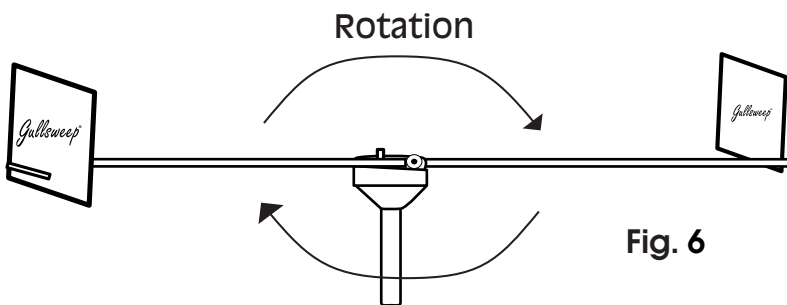

Fig. 6
All parts required are in your pack, however, you will have to assemble the (2) vanes on to the folded aluminum rod (See figures 6 & 7). The rods should be folded out on the center hub so you can determine which side is up. As per Figure 6, the vanes should be mounted on top of the rod - pushing the screw through the rod and tightening the plastic lock nut securely on the bottom. You do not want the vane to be loose on the rod. The vanes should be mounted on the opposite side of the rod (See Figure 6). This will assure the motion of your GullswEEP will be clockwise in the wind. A 3' stainless steel rod is the center mounting point and should be stuck into the ground about 1' and be vertical. Each rod comes with point protectors which should be removed when the rod is put in service.